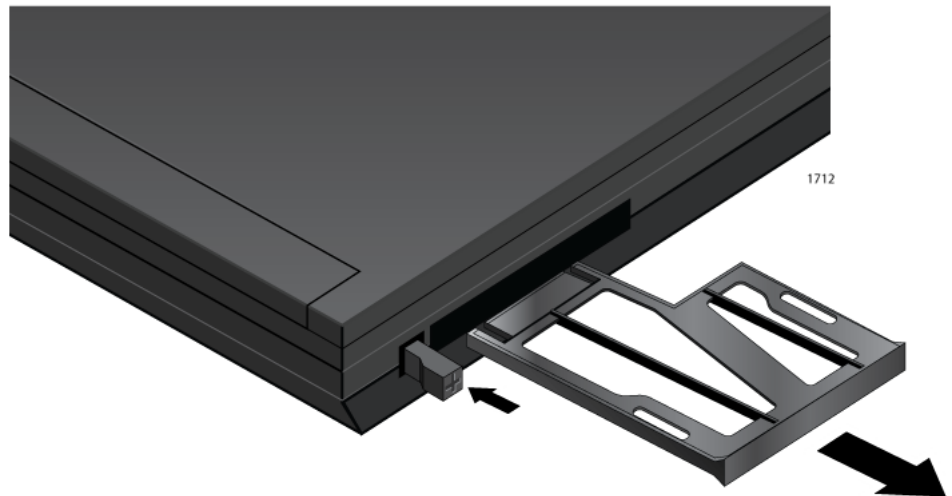

Figure 13. Removing the Plate
4. Remove the plate from the laptop. See Figure 13.